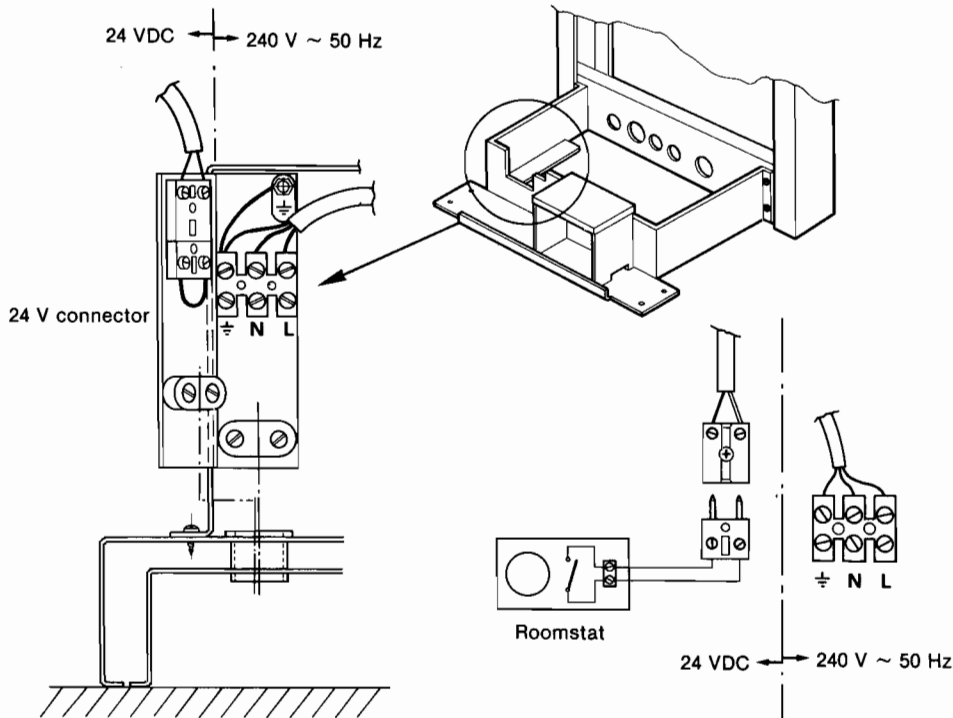

Fig. 18
Electrical installation must be carried out by a component electrician. The appliance is to be connected to a 240-V ~ 50 Hz supply (see fig. 18). The supply fuse rating is 3A.
7.2 Room Thermostat Connection (fig. 18)